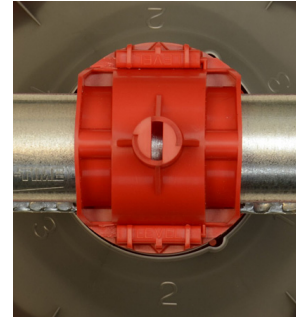

Figure 57. Feeder Pan Assembly adjustment
**The feeder should be set on the #2 position for most applications.** The adjustment settings are easy to understand and change. Setting numbers are embossed on both sides of the grill so they may be easily seen from either side of the feeder line. (See Figure 57.)